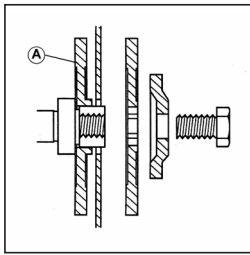

FIG. 1
- Install blade flange 'A' on the inner side when the arbor hole in the cutting disc is $\varnothing 22.2\text{mm}$ ($\varnothing 7/8''$). (**FIG. 1**)